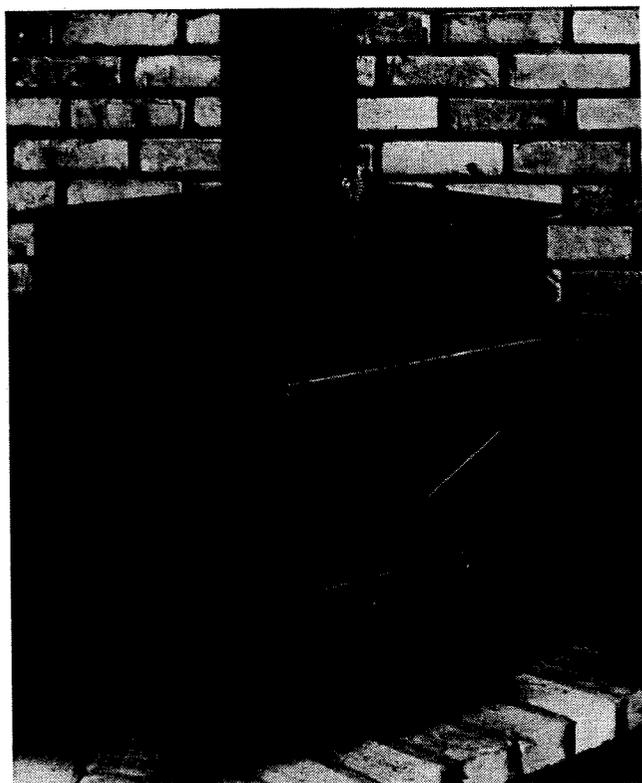

Fig. 39. Freestanding forced-air fireplace from Arizona Forest Supply, Inc. (Model AFS HB465).
3. **Arizona Forest Supply, Inc.** (manufacturer), 610 Butler Ave., P.O. Box 188, Flagstaff, AZ 86002. The AFS (Fig. 39 and Table 5) has a blower which delivers 27,000 cubic feet of air per hour through the five heat exchanger tubes and the plenum chamber at the top of the firebox. Patented baffle design directs unburned gases toward the secondary draft inlet. Man-